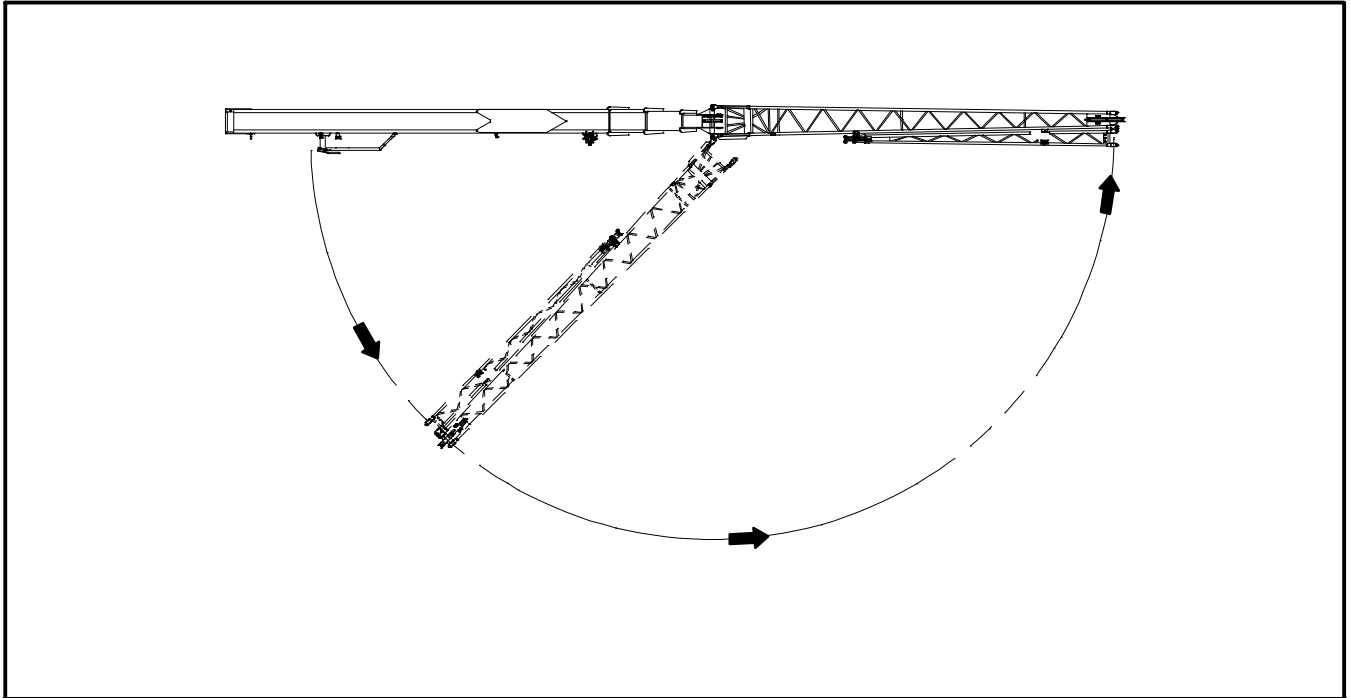

Figure 4–136
13. Pull the retaining pin (2) to disengage the retaining pin from the bullet lug (1) on the 25 ft (7.62m) fly storage bracket. Refer to Figure 4–135. Rotate and release the retaining pin to lock it in the disengaged position (3).